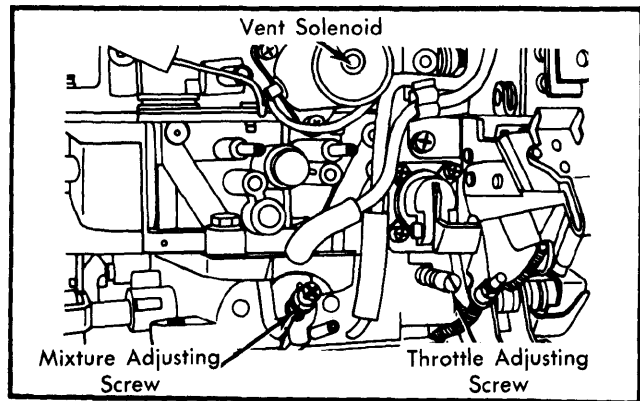

Fig. 4 Carburetor Adjusting Screw Locations
6) To adjust idle mixture, set idle speed to idle set specification by turning throttle set screw (automatic transmission in "N"). Set idle speed to highest RPM obtainable by turning mixture screw. Reset idle speed to idle set specification by turning throttle screw. See Fig. 4.